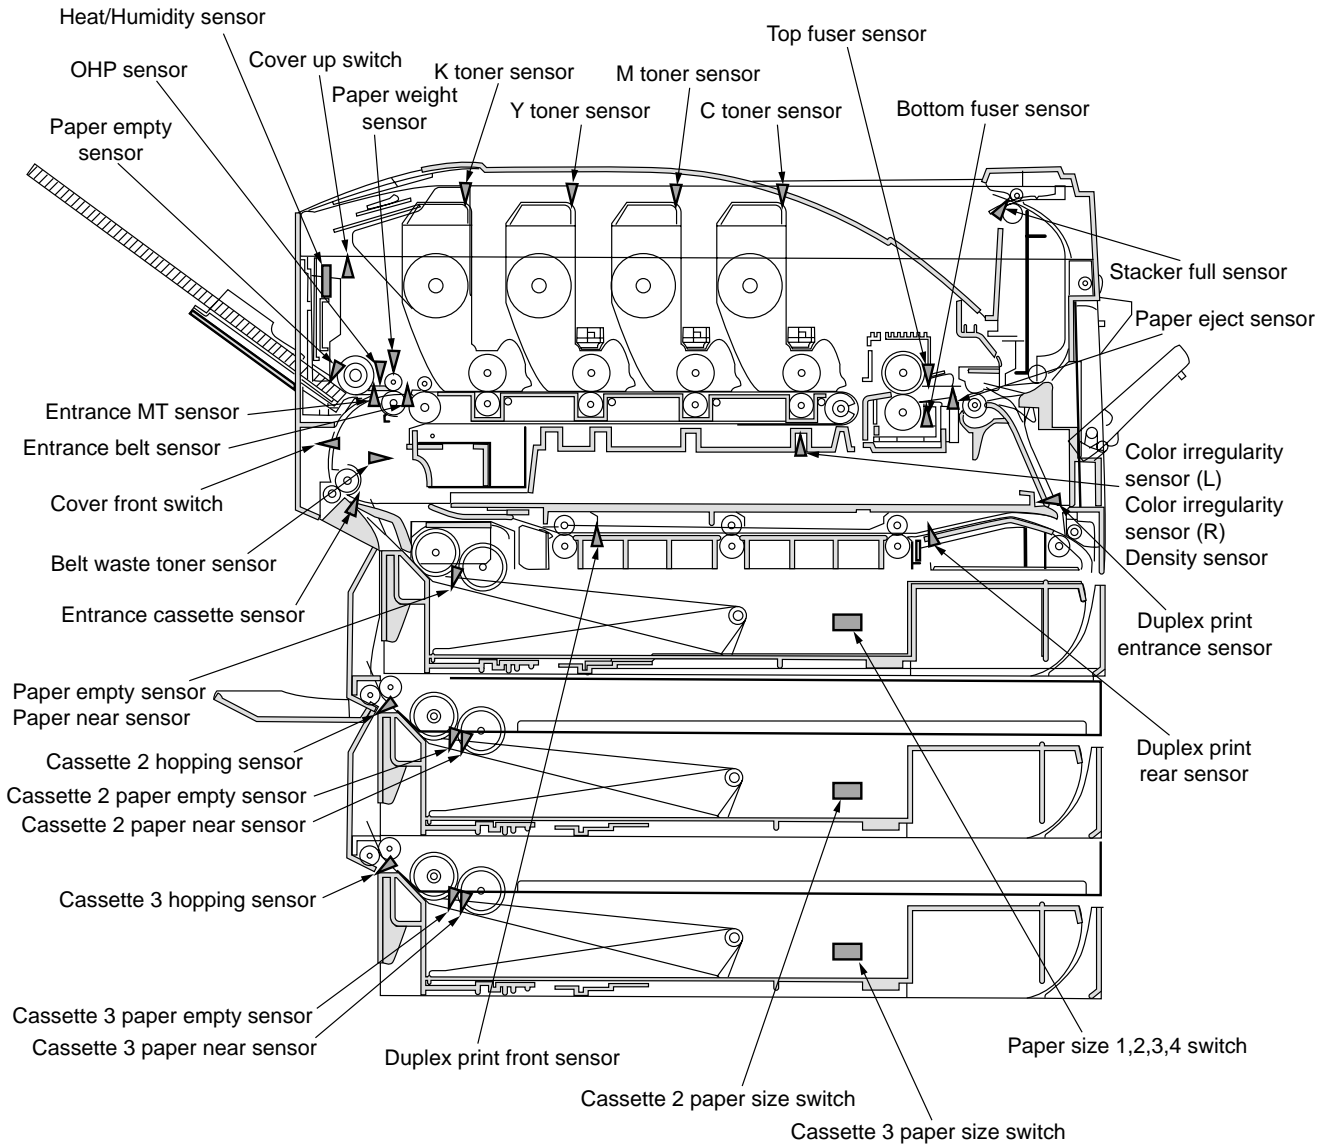

Figure 4-1 Switch Sensor Position
3. The test starts by pressing the **3** key. The SWITCH SCAN number begins to blink and the number of the corresponding unit (1-4) is displayed along with the current status. Manipulate each unit (Fig 4-1). The items are displayed in the LCD that corresponds to each item. (The display differs for each sensor. See Table 4-1 for details.)